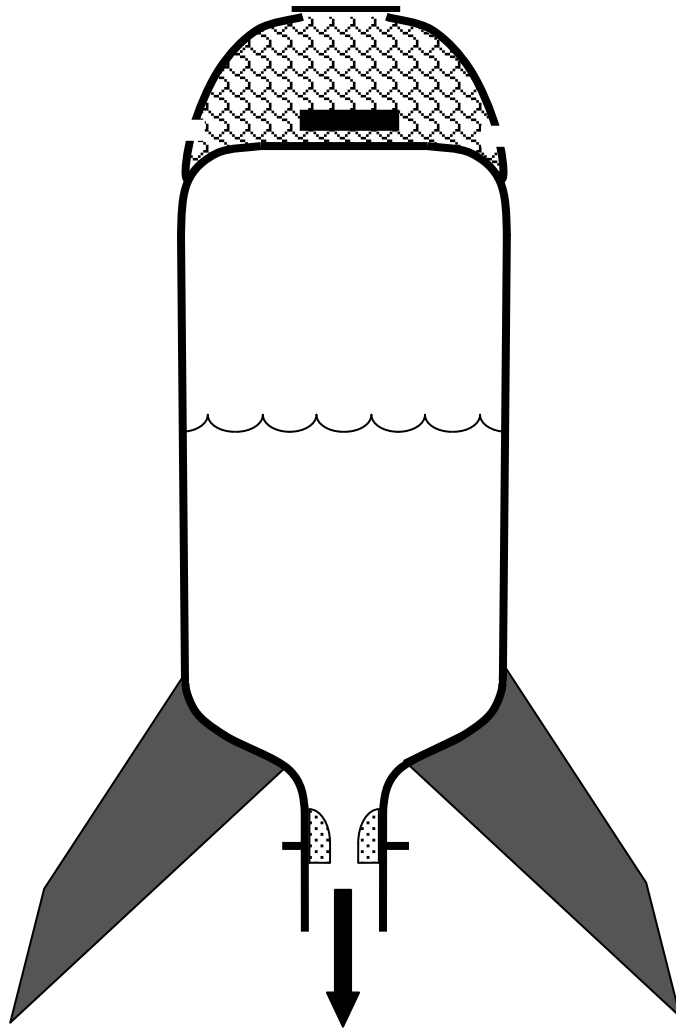

Figure 1 Schematic of water rocket.
- Construct multiple versions of the water rocket shown in Figure 1